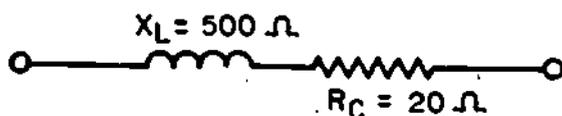

Figure 6
The Q of an inductor, tank, or loaded circuit expresses the relationships between inductive reactance (X_L), capacitive reactance (X_C), and resistance (R). The Value Q, or quality, represents the ratio of "energy stored/energy used". Figure 6 shows the inductor equivalent for X_L and R_c (coil resistance).